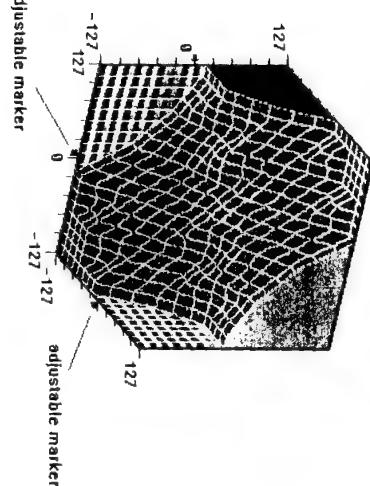

Figure 5-11 A Control Surface
8. Select View/Surface from the Analyzer window menu. This causes the Analyzer to draw a 3-D image of the rule's transfer function, as shown in Figure 5-11.